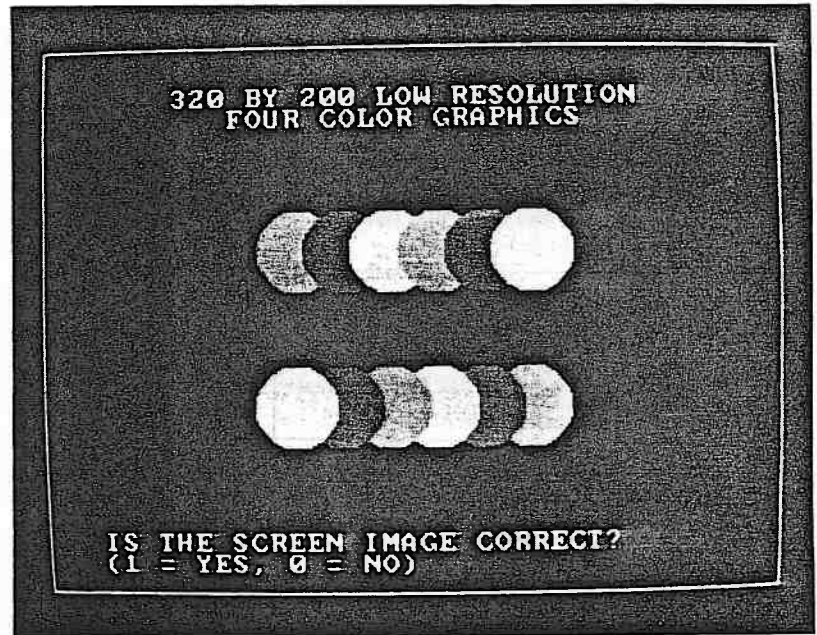

Figure 5-28. 320 by 200 Low Resolution Graphics Pattern
21. The 320 by 200 Low Resolution Four Color Graphics Pattern should be displayed (Figure 5-28).
If the pattern shown on the screen is the same as Figure 5-28, press the **y** key. If it is not the same as Figure 5-28, press the **n** key followed by the **ENTER** key.